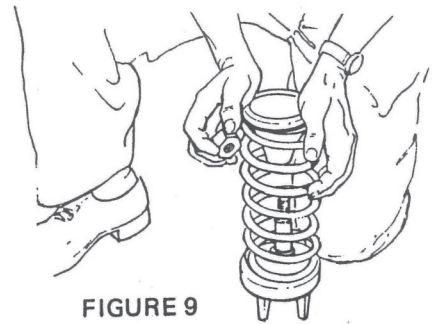
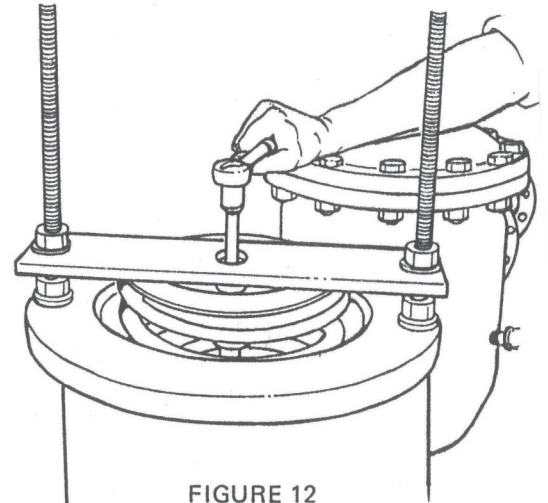

FIGURE 9
FIGURE 12
1. 1-1/2" – 3" (refer to Figs. 9).
- a. Loosen spring retainer nut (1).
- b. Compress spring retainer (2) by hand. Remove spring retainer nut (1).
- c. Release hand and remove retainer (2) and spring (3).
- e. Remove spring retainer nut (Fig. 12).